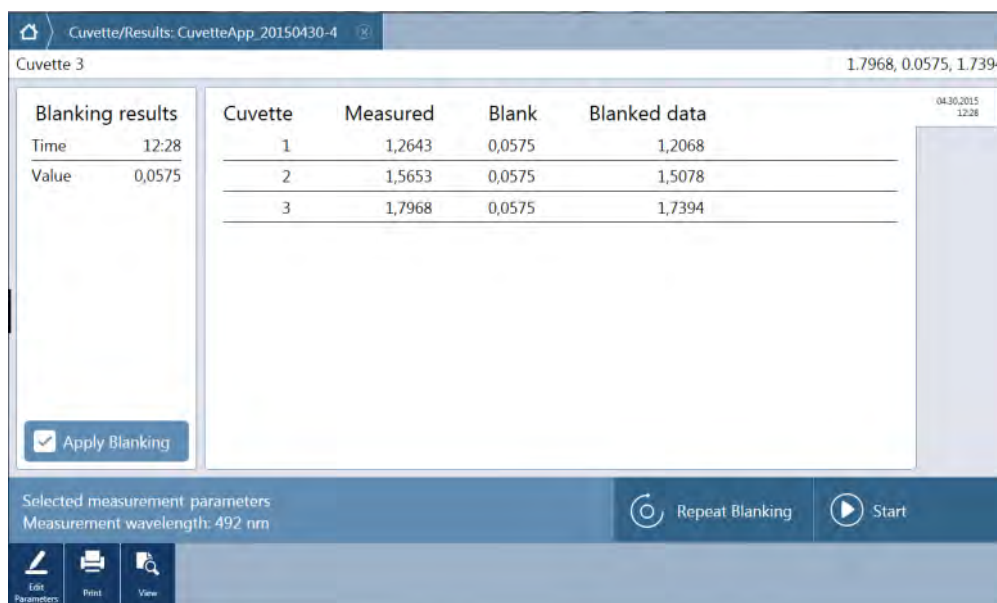

Figure 118: Result window during a measurement
4. Insert a cuvette for blanking and confirm the corresponding user intervention by selecting **OK**. The blanking measurement is performed and the blanking result is part of the Result window (Figure 118: Result window during a measurement).
2. Start the measurement by selecting **Start**. The measured result is displayed within the Result window (Figure 118: Result window during a measurement). To measure a new sample remove the previous cuvette from the cuvette port, insert the new one and continue with **Start**. The new measured result is added to the Result window.